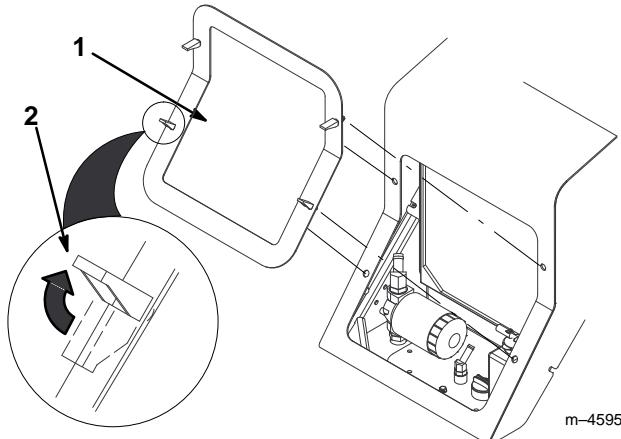

Figure 20
3. Release the four locking tabs (Fig. 20).
4. Pull the cover off of the traction unit (Fig. 20).